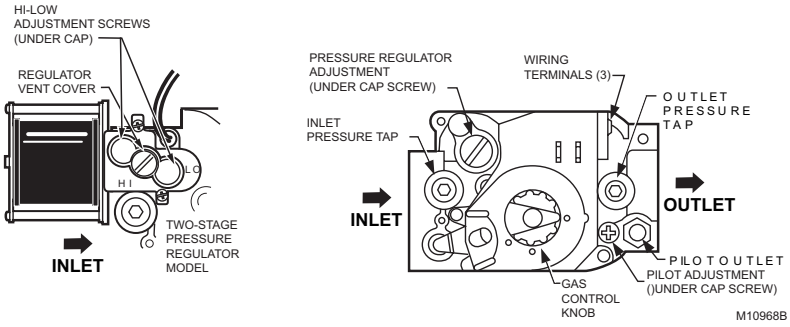

Fig. 3. Top view of gas control.
6. Connect pipe to gas control inlet and outlet. Use wrench on the square ends of the gas control. See Fig. 3 and 4.
3. Connect control circuit to gas control terminals. See Fig. 3 and 8, 9, or 10.
1. Remove the pilot adjustment cover screw. Refer to Fig. 3.